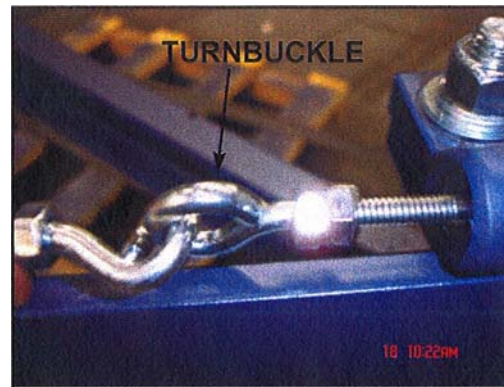
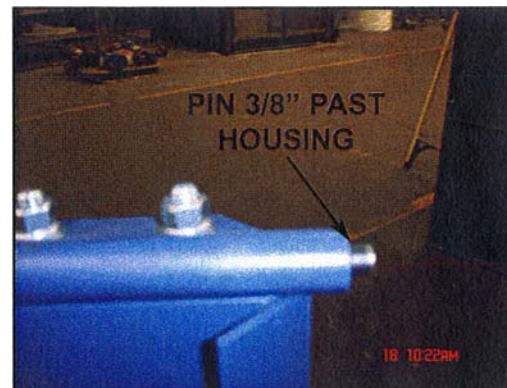

Figure 8
Figure 9
4. After carriage is hanging from lift chains, back safety pin retaining nuts all the way to the "eye" of eye bolt. Lock into place. The safety pins are now ready to actuate if chains break. See Figure 8. Pins should stick past housing approximately 3/8". Adjust turnbuckle, if needed. See Figure 9.